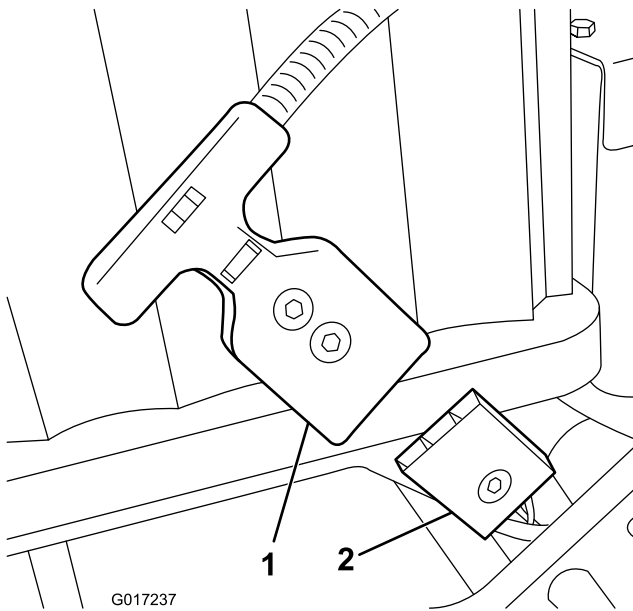

Figure 13
Note: If you cannot mate the battery pack receptacle with the machine wire harness plug while the battery pack is installed, you can instead connect the harness to the battery pack and then install the battery pack. Remove the main power supply connector (Figure 13) from the battery base. Install the connector to the battery as described. Install the battery to the base, threading the attached wiring harness through the appropriate hole, and then secure the main power
15. Connect the T-handle connector from the main wiring harness to the main power supply connector on the battery base (Figure 13).